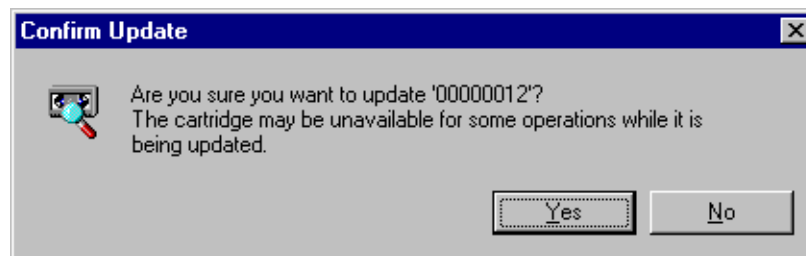

Figure 38. Confirm Update dialog box
2. On the **File** menu, or from the shortcut menu with a right-click, click **Update**. Since the update takes several minutes to complete, you are asked to confirm the operation, as shown in Figure 38.